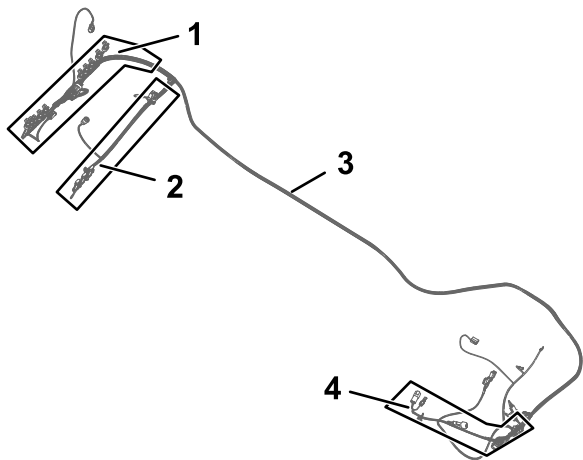

Figure 76
1. Locate the 84 cm (33 inch) wire-harness branch, 60 cm (23-1/2 inch) wire-harness branch, and 66 cm (26 inch) wire-harness branch of the kit wire harness (Figure 76 and Figure 77).